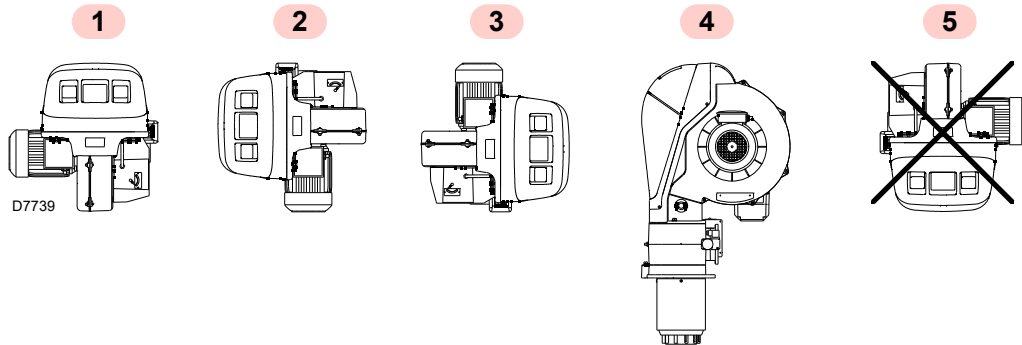

Fig. 11
- The burner is designed to operate only in positions **1**, **2**, **3** and **4** (Fig. 11).